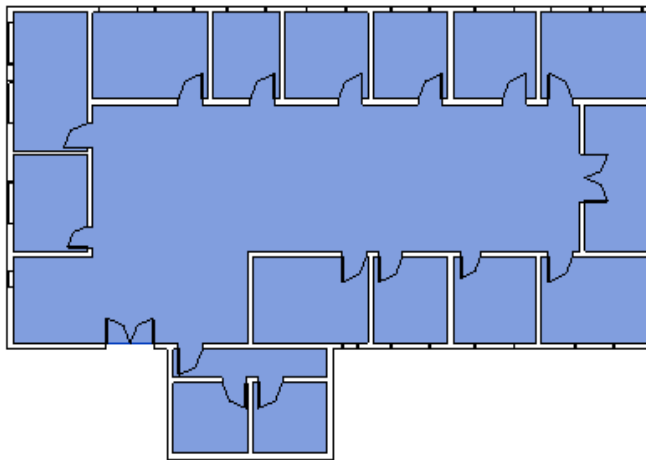

Figure 3-90 The Generic 12" type of the floor created
- 11. Choose the **Modify** button from the **Select** panel of the **Modify | Floor** tab to exit the **Floor: Architectural** tool. The floor is created for the project, as shown in Figure 3-90.